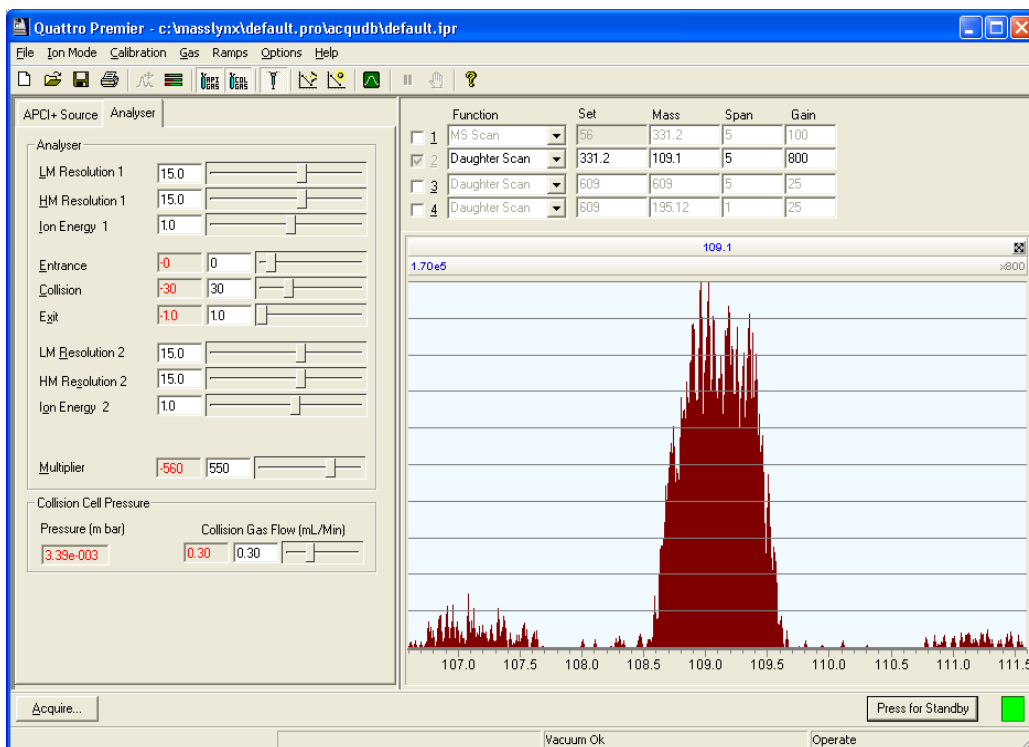

Figure 3-6 Tune Window with a Daughter Ion Peak
1. In the Tune window, select the Function 2 box. (The Function 1 box may be cleared, as shown in Figure 3-6.)
12. In the Tune window, determine the m/z value of the daughter ion peak's center to one decimal place (Figure 3-6). Record this value.